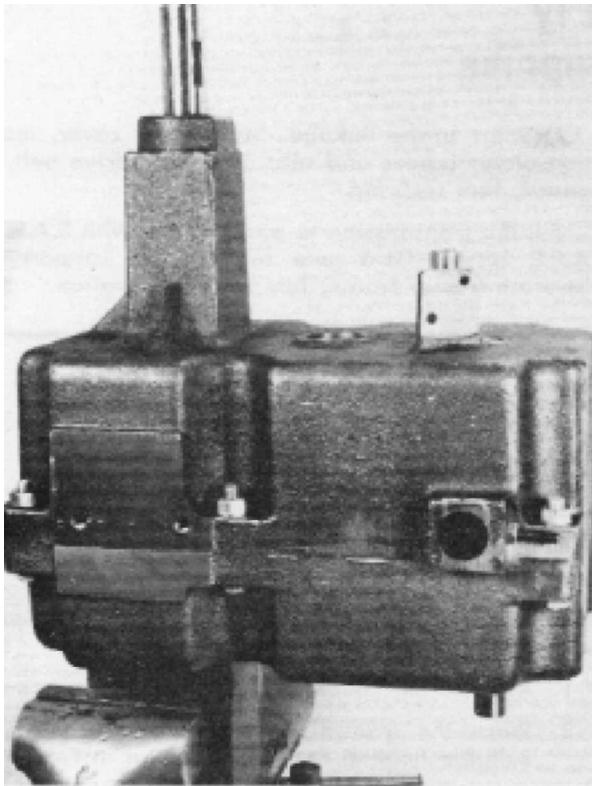

FIGURE 3
6. Remove the six (6) 3/8" x 16 bolts and nuts that retain the right hand and left hand cases.
8. Remove the left hand case, as shown in Figure 3.